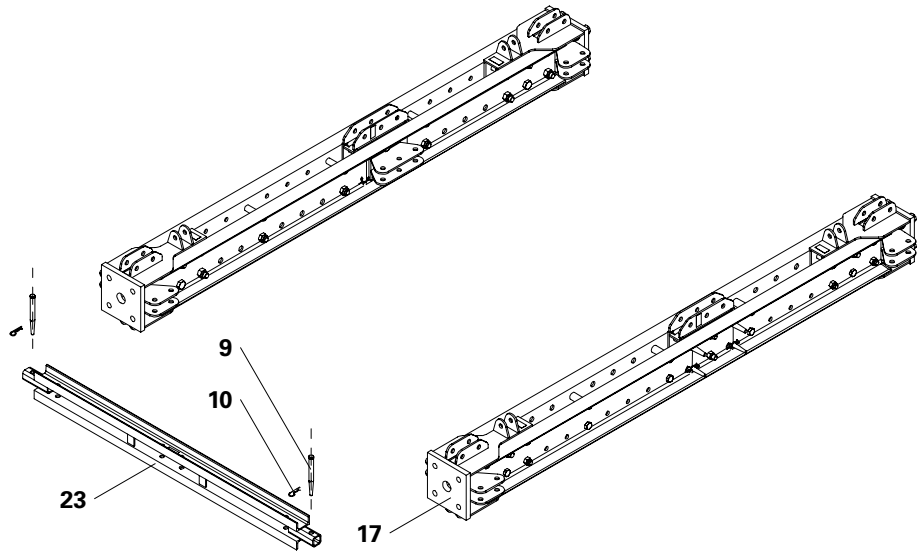

Fig. B3.01a
3. Secure Fitting Pins with cotter pins 4/1 (**10**). (Fig. B3.01a)